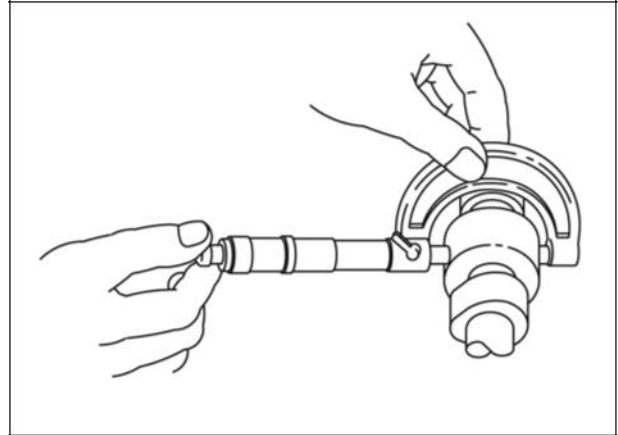

Figure 12
2. Measure camshaft journals (Figure 12).